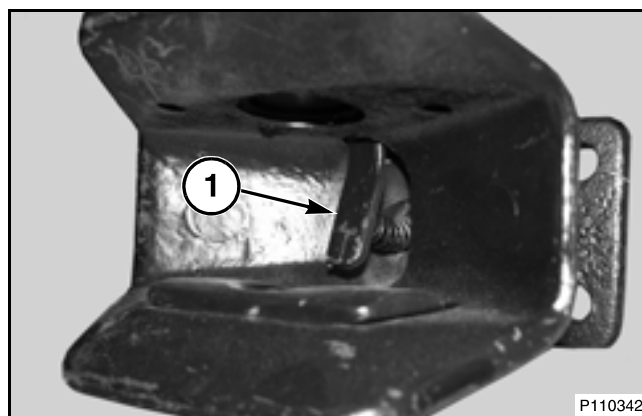

FIG. 307
FIG. 307: To connect to the trailer after setting the hitch, align the tongue of the trailer to the hitch. Slowly back the combine until the tongue of the trailer contacts the trigger (1) inside the hitch and the hitch pin is released. Connect the trailer light harness to the connector, located to the left-hand side of the trailer hitch.